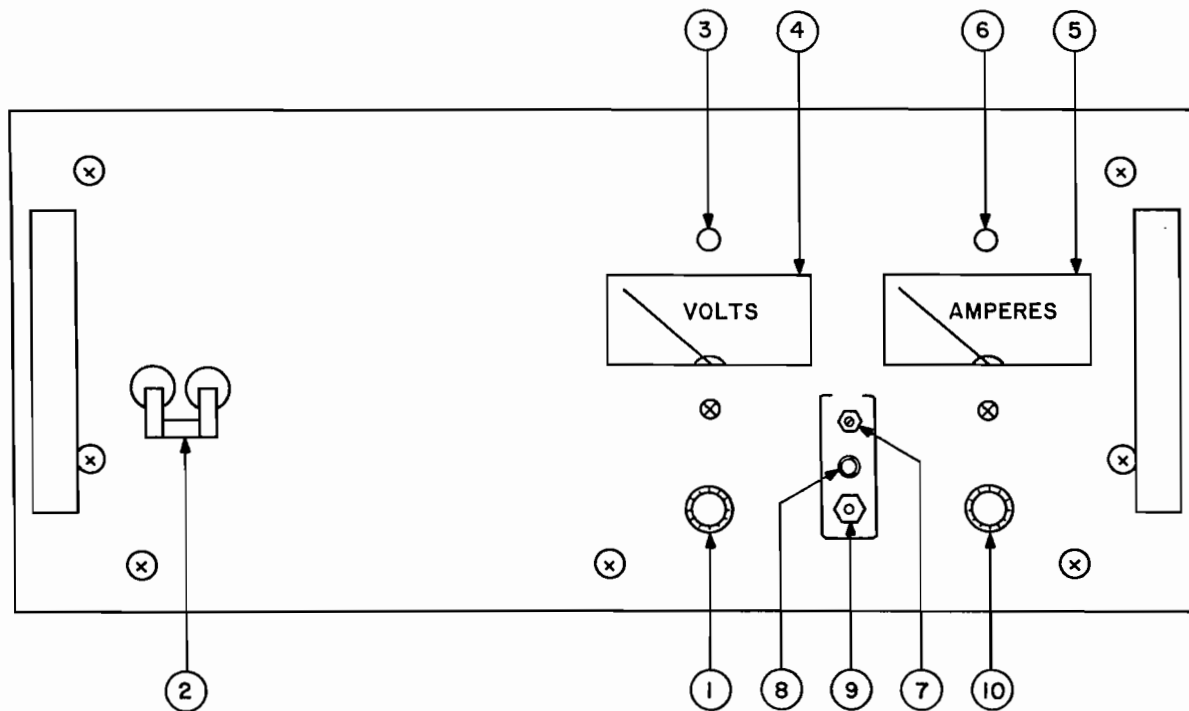
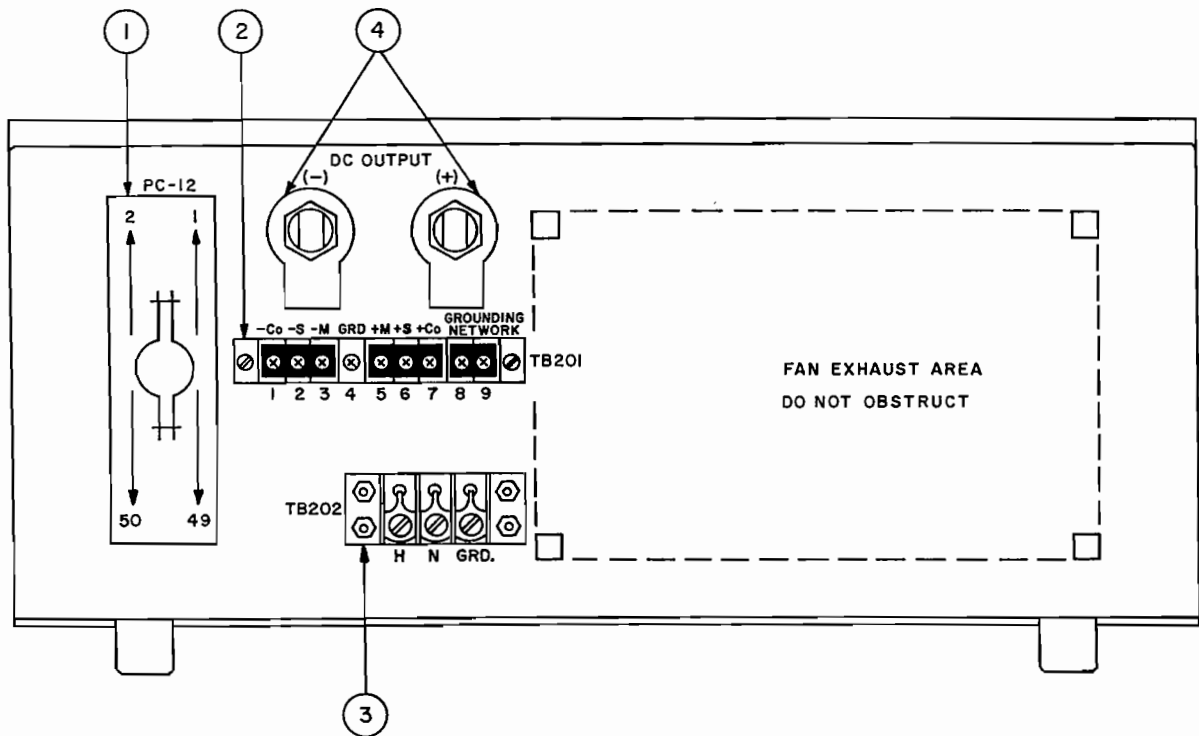

FIG. 2-2 CONTROLS AND TERMINATIONS, ATE FULL RACK GROUP, FRONT.
FIG. 2-3 TERMINATIONS, ATE FULL RACK GROUP, REAR.
- a) FRONT PANEL: Refer to FIG. 2-2 and Table 2-2.
- b) REAR: Refer to FIG. 2-3 and Table 2-3.
- 2-9 A simple operating check after unpacking and before permanent installation is advisable to ascertain whether the power supply has suffered damage resulting from shipment. Refer to FIG. 2-2 and to FIG. 2-3 for the location of the operating controls and output terminals.
- To reset the adjusted crowbar point, press DISARM button again and advance VOLTAGE CONTROL clockwise. Note voltage at which the CROWBAR INDICATOR lights up. Readjust LEVEL control if necessary, by repeating step (2) and check again by repeating steps (3) and (4).
A resistor/capacitor network is connected from the negative monitor terminal to the metal chassis of the power supply. If this internal network is *not* desired, the connection to the chassis can be opened by removing the link (8)-(9) on TB201 (See FIG. 2-3).